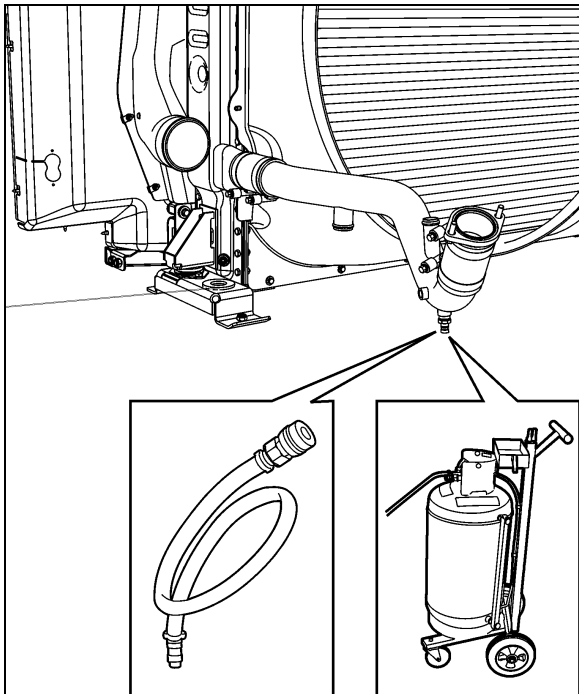

FIGURE 7: EXTRACTING COOLANT
5. Connect coolant extractor (Figure 7). Use coolant extractor to drain the coolant from the engine. An alternate method is to drain the coolant into a suitable container using the drain hose.
4. Connect coolant extractor (Figure 7). Use coolant extractor to drain the coolant from the engine. An alternate method is to drain the coolant into a suitable container using the drain hose.